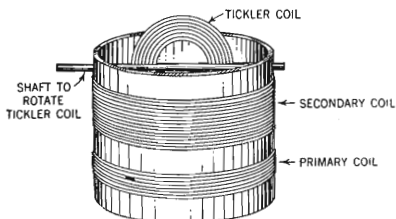
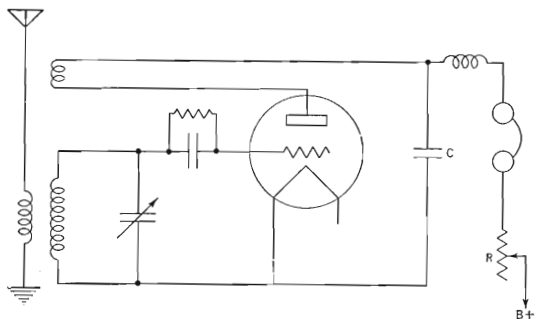

Fig. 76. Three-circuit tuner showing arrangement to vary the coupling between the secondary coil and the tickler coil.
Fig 78. Three-circuit tuner using a fixed capacitor (C) of about 0.00025 microfarad and a rheostat (R) of about 50,000 ohms to control the amount of feedback.
The third method is to substitute a *fixed capacitor*, whose value is usually about $0.00025 \mu\text{fd.}$, for the variable capacitor described above. We now control the amount of electrical energy fed back to the tuner by placing our old friend, the *rheostat*, in the plate circuit, as shown in Figure 78. This rheostat, usually of about 50,000 ohms value, controls the total amount of current flowing in the plate circuit. Since a constant amount of electrical energy is drained off by the fixed capacitor,
78. How can you build a regenerative set? These three controls of feedback—the coupling control (Figure 76), the variable capacitor (Figure 77), and the rheostat (Figures 78 and 79), are called *regenerative* or *feedback controls*.